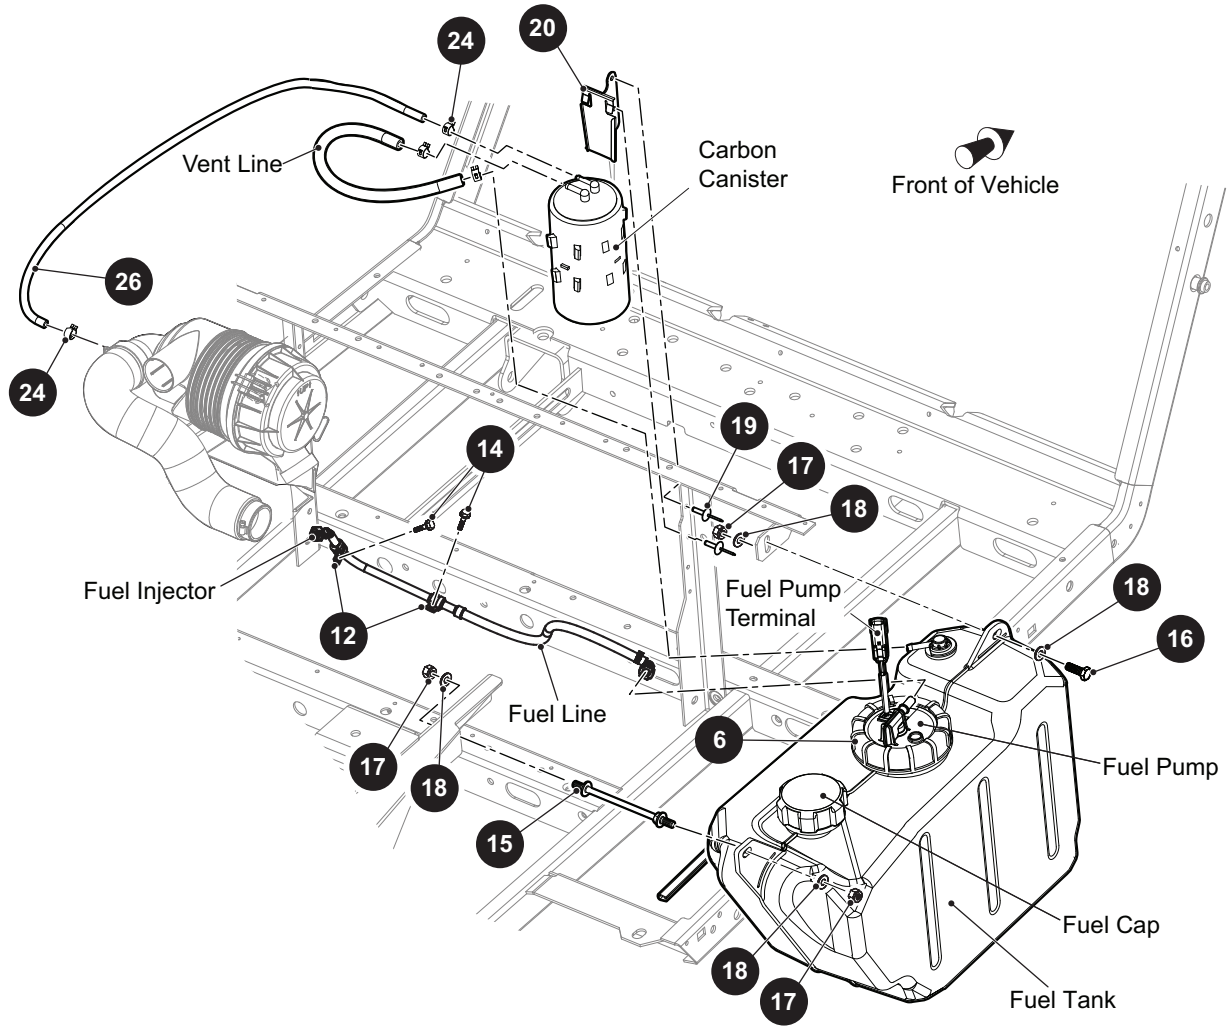
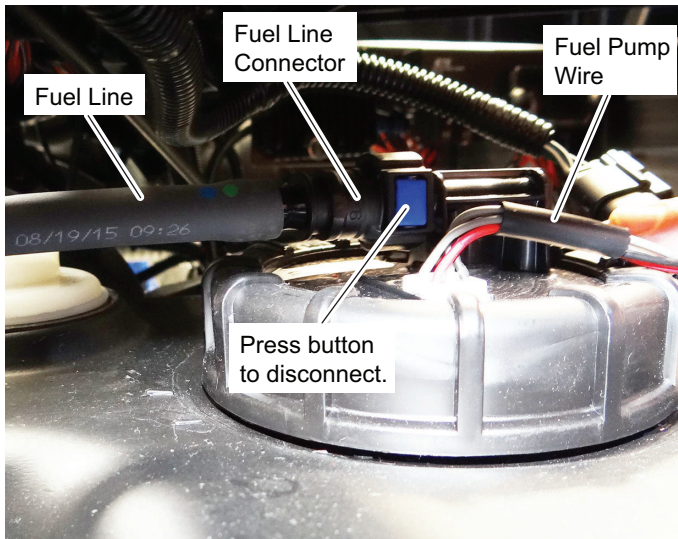

Fig. 1 Fuel System
Fig. 3 Fuel Tank Connections
An electric fuel pump supplies fuel from the fuel tank to the engine injection system through the fuel line (See Fig. 1). The fuel filter is located in the fuel tank along with the fuel pump.
The fuel tank, fuel line, vent line and fuel tank cap should be checked frequently for leaks, clogs or damage (See Fig. 1).
4. Disconnect the fuel line from the tank by pressing the button on the fuel line connector while pulling the connector away from the tank (See Fig. 3). Plug the fuel line to prevent fuel leakage.
5. Disconnect the tube (12) to the carbon cannister.
6. Remove the forward hex nut (17), washers (18), and bolt (16).
7. Remove the rear nut (17), washers (18) and spacer (15).
9. Installation is in reverse order of removal (Ref. Fig. 1).
5. Remove the screw (14) that secures the fuel line to the engine.